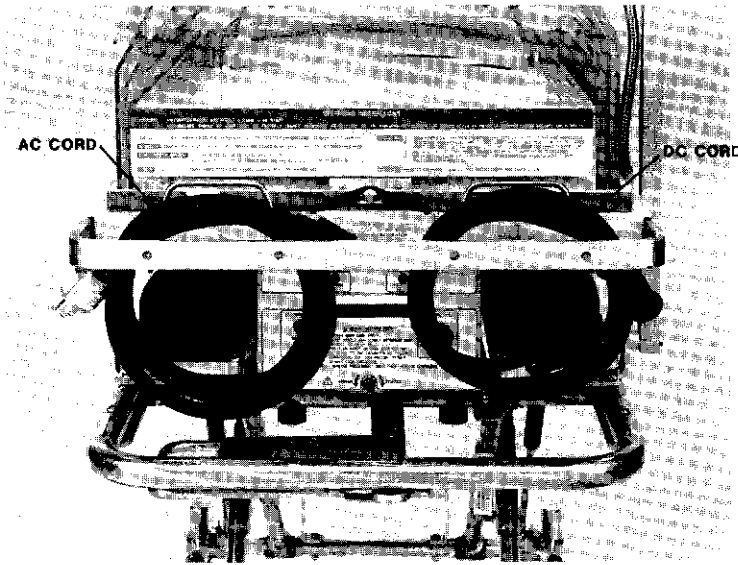
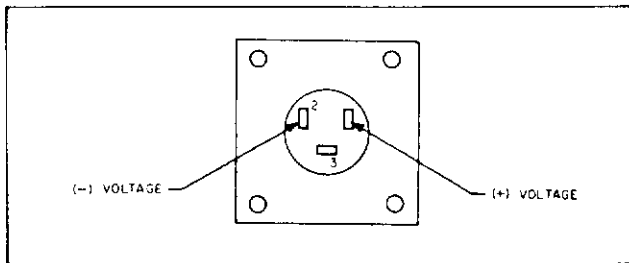

FIGURE 2.3 AC AND DC POWER CORD STORAGE LOCATIONS
FIGURE 2.4 DC POWER CORD RECEPTACLE ELECTRICAL CONNECTIONS
1. THE AC POWER CABLE (Figure 2.3) can be connected to a standard 3-wire hospital outlet.
2. THE DC POWER CABLE (Figure 2.3) should be connected to the transporting vehicle using the DC Power Cord Receptacle (accessory part number 67 010 76). Refer to Figure 2.4 for proper voltage polarities.